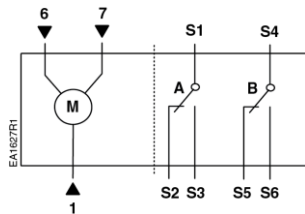

Figure 18. GLB14x Wiring Diagram.
1. Connect all wires per Figure 18.